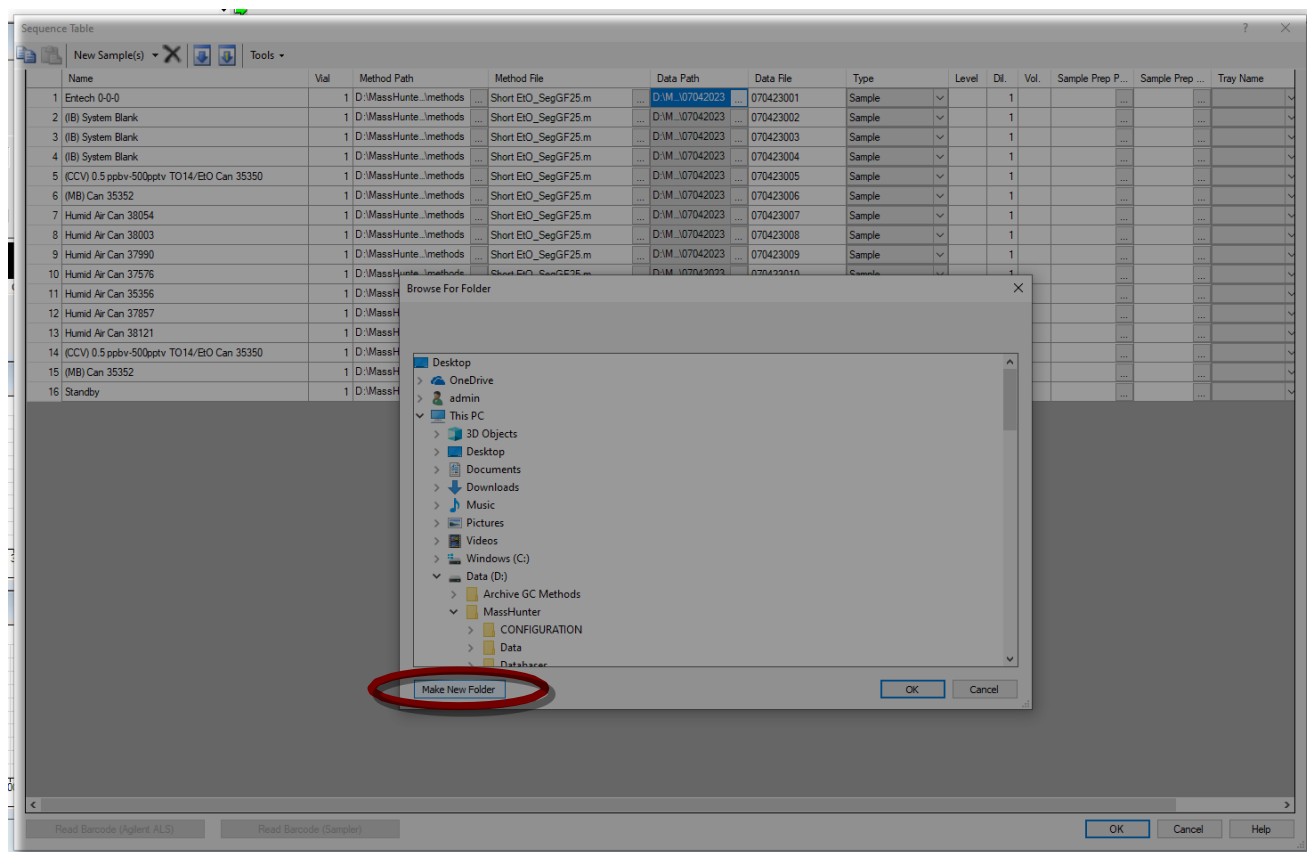

Figure 26. Selecting a year folder and Make New Folder.
- Click the YYYY folder relevant to the current year and click **Make New Folder** (Figure 26).